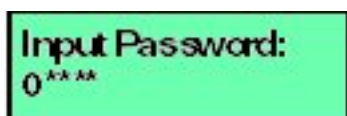

Figure 3.15. LCD Panel (Password Entry)
1. At the LCD panel, press **ENTER**. The Welcome!! or operational information message changes to the following (Figure 3-15):